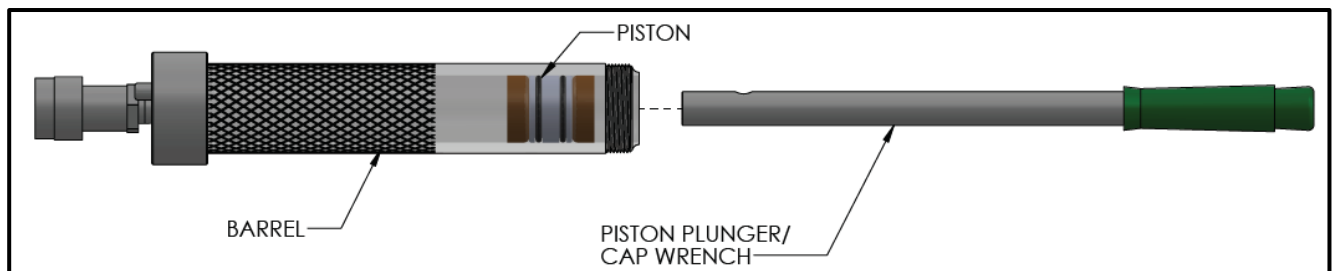

Figure 5
- 2.) To insert sealant into a sealant barrel, make sure the piston is at the bottom of the barrel. Figure 5 shows how to push the piston in. The connected hydraulic pump needs to be in the release position to allow oil to flow back into the pump. The piston is a very tight fit. A hammer may be needed to drive the piston back. If the supplied piston plunger is lost, a piece of pipe or handle of a hammer may be used to drive the piston back.